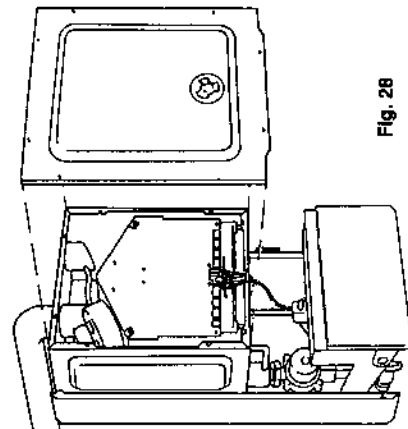

Fig. 28
Part No 5904 Refer to fig 28
- Remove roomsealed front cover plate by releasing eight screws (fig. 28) and easing cover off. The screws are not captive. Inspect gasket for damage. If damaged, replace.